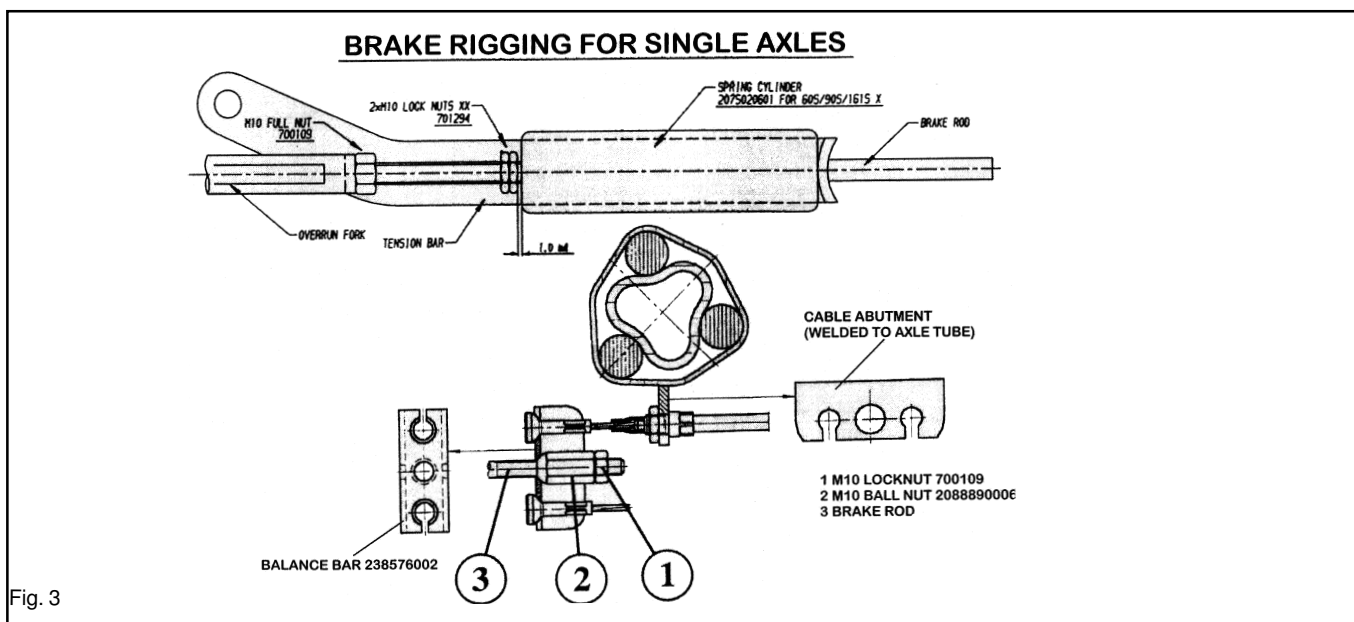

Fig. 3
7. Check the adjustment at the end of the brake cable where it is secured to the abutment (bracket), welded to the centre of the axle. When the inner cable is pulled out it should extend between 5 and 8 mm. (Fig. 3). (On tandem axles a double abutment (bracket) is fitted to the front axle ONLY).
10. Ensure the balance bar (compensator) is being pulled evenly (Figs.1 & 3). Excessive movement to this bar (double on tandem axles) would indicate possible incorrect adjustment (if appropriate, repeat step No. 7 - Fig. 3).
12. Remove the slack in the brake rod by adjusting the long ball nut, rear of the balance bar, ensuring the overrun lever makes contact with the end of the towing shaft. Note! Over adjustment to the long ball nut (Fig. 3/Item 2) could induce movement of the inner brake cable, reducing the effective clearance of the brake shoes. If the overrun lever will not make contact, it is possible the two lock nuts, forward of the spring cylinder, are incorrectly adjusted. Loosen the nuts and adjust brake rod as above (Figs. 1 & 3).
13. Adjust the two locking nuts, forward of the spring cylinder (Fig. 1), (on some chassis a single Nyloc nut is used) to give 1 mm of clearance on the spring cylinder. This cylinder (the energy store for the handbrake operation) must be able to rotate ONLY, not slide on the brake rod. (Fig. 3). (If the overrun assembly is fitted with a gas strut handbrake then no spring cylinder is fitted - therefore ignore this paragraph).